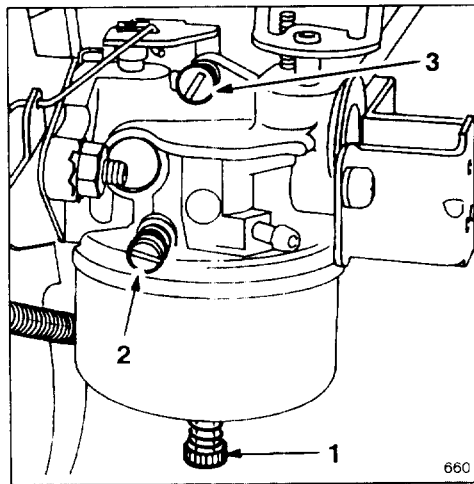

Figure 29
2. Power Adjusting Screw (Fig. 29)—Close screw by gently rotating it clockwise until a slight seating resistance is felt. Next, rotate power adjusting screw one full turn— 360° —counterclockwise.
3. Idle Mixture Screw (Fig. 29)—Close screw by gently rotating it clockwise until a slight seating resistance is felt. Next, rotate idle mixture screw $1\frac{1}{2}$ full turns counterclockwise.
5. Rotate power adjusting screw (Fig. 29) clockwise—in $\frac{1}{8}$ turn at a time until engine misses because of a lean gasoline mixture. Then rotate screw counterclockwise—out— $\frac{1}{8}$ turn at time until engine runs unevenly because of a rich gasoline mixture. Next, rotate power adjusting screw clockwise, back to the midpoint between the rich and lean settings, so engine runs smoothly.
7. Rotate idle mixture screw (Fig. 29) clockwise—in—1/8 turn at a time until engine begins to miss because of a lean mixture. Then rotate screw counterclockwise—out—1/8 turn at a time until engine runs unevenly because of rich mixture. Next, rotate idle mixture screw clockwise, back to the mid-point between rich and lean settings.
8. Again, rotate idle speed screw (Fig. 29) until engine idles at 1750 rpm.